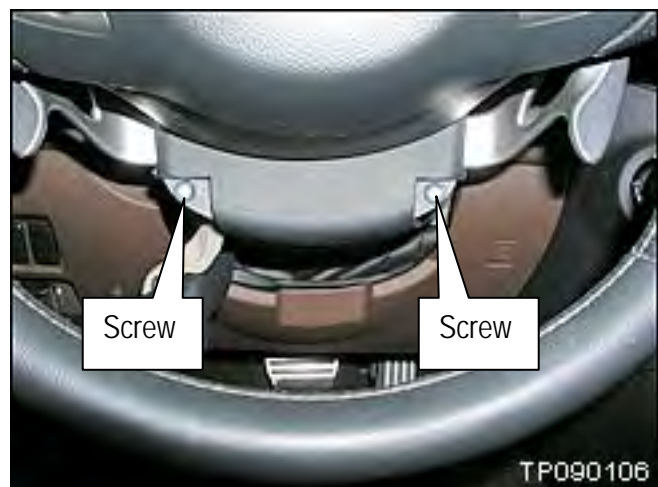

Figure 4A
- g. Turn the steering 180° from center and remove the 2 screws shown in Figure 4A.